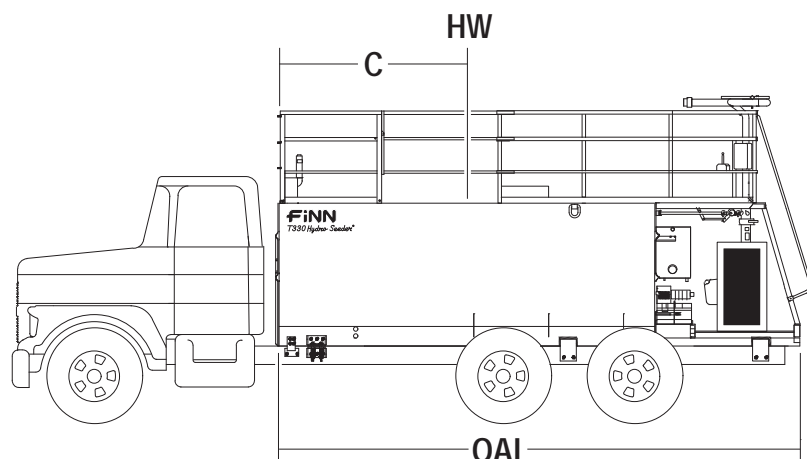

Figure 1 – Mounting Information Visual Guide
- B. Check automatic pressure lubricator at pump. If the red indicator is fully raised, the automatic pressure lubricator contains lubricant. If not, lubricant must be replaced by the following procedure (See Figure 1):